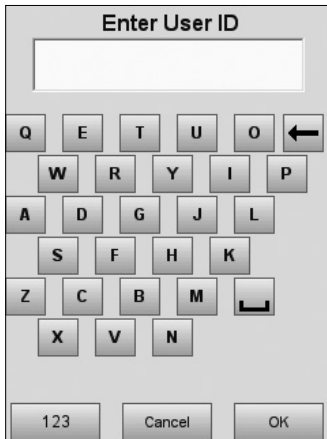

Fig. 5-3 Enter User ID
4. If **<Non Secure User ID Entry>** is enabled in the security settings (see Section 3.2.3), you will be asked to enter the user ID (Fig. 5-3).